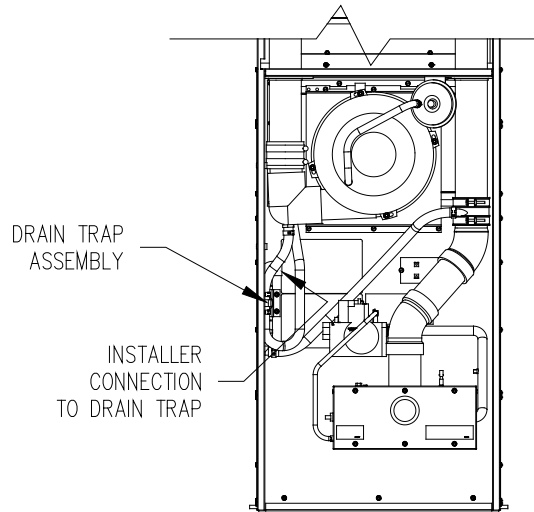

Figure 14.
1. Figure 14 illustrates the typical drain trap connection for a VMA furnace. (Trap will be installed at factory.) Connect condensate drain trap to building drain system.